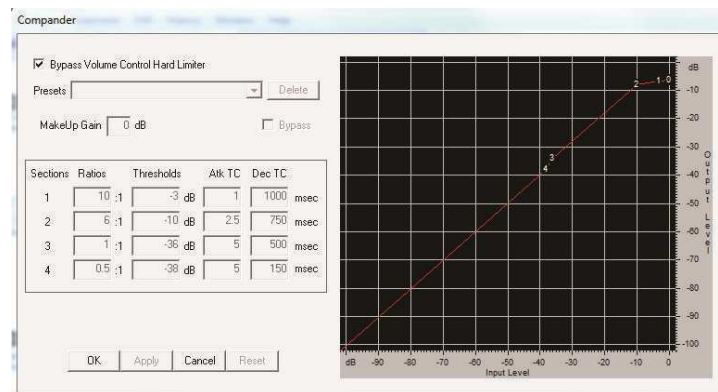

Figure 15.4: Volume Boost GUI with Drag Points
- Easy to use GUI, with drag points, see Figure 15.4